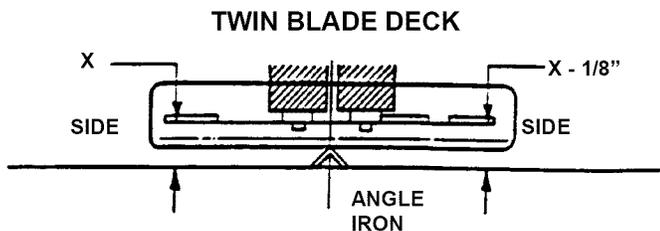

FIGURE 4.6
- e. Measure the distance from blade tips to floor. If the measurement is within $1/8$ " from side-to-side, the deck levelness is satisfactory. If the difference from side-to-side is greater than $1/8$ ", continue to the Step "f" for adjustment. See Figure 4.6.